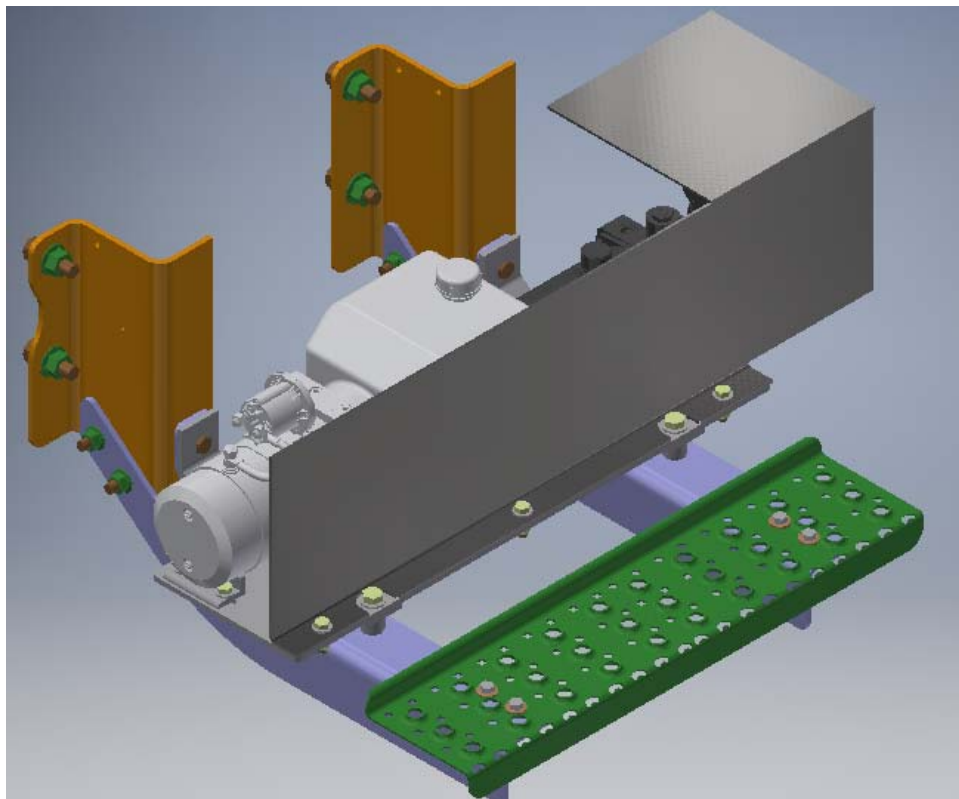

Figure 7: Pump Protection Box Installed
23. Once Brakes are fully tested, Install the Pump Protection Box (R-20484) using remaining 3/8" hardware. (Figure 7)